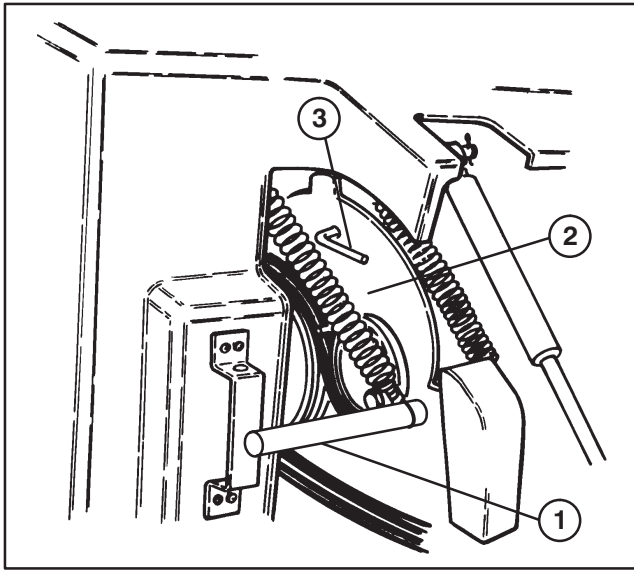

Figure 20
- C. Push down on override lever (Fig. 20) until holes in lever bracket and coring bracket are aligned, then insert pin thru holes.
- 2. Push down on override lever until holes in lever bracket and coring head are aligned, then insert pin thru holes (Fig. 20).